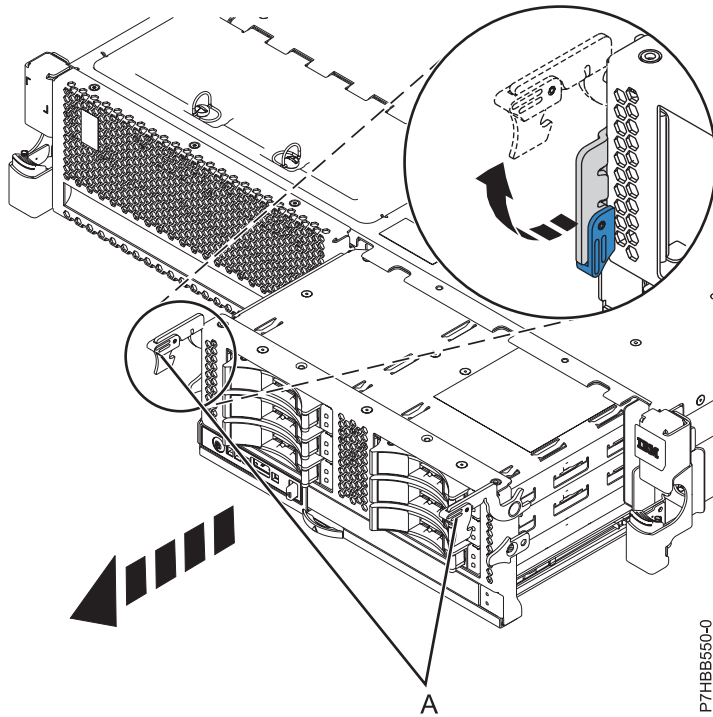
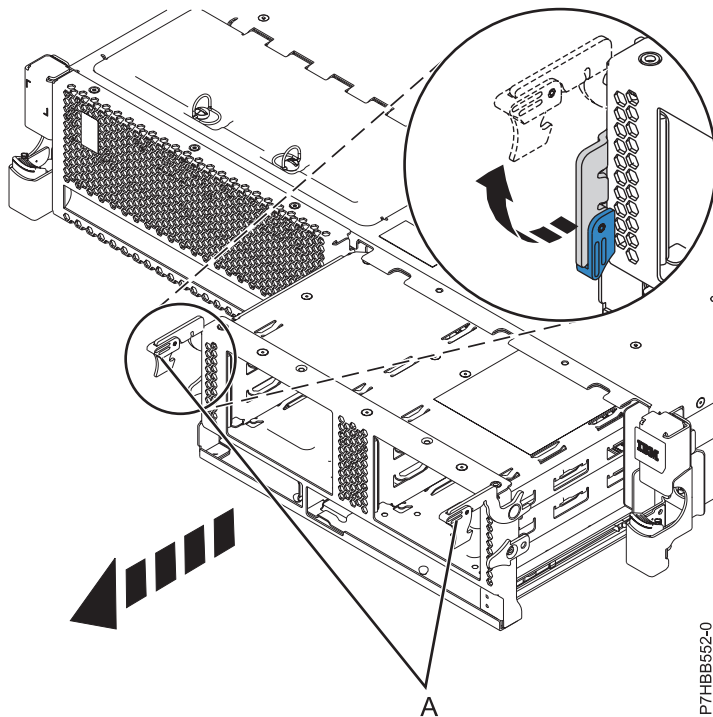

Figure 30. Removing the backplane populated with disk drives
Figure 31. Removing the backplane that is not populated with disk drives
13. Unlock the disk drive backplane by pulling the handles (A) open from the center of the backplane as shown in Figure 30 and Figure 31.